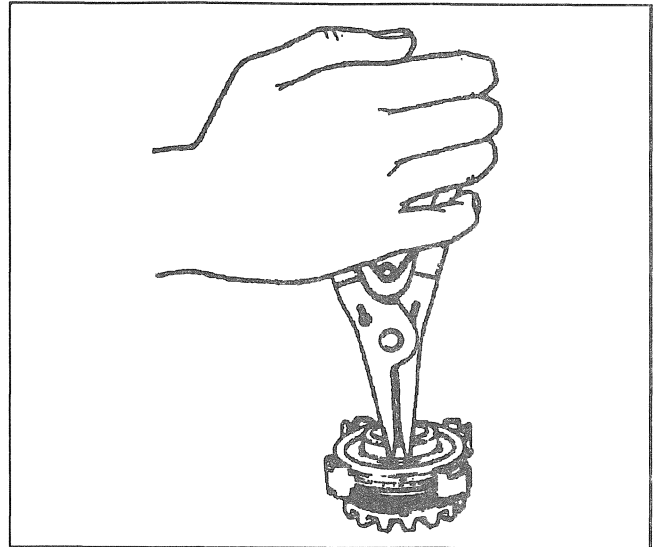

Figure 3—Removing the Retaining Ring
1. Retaining ring (22) (Figure 3).
2. Clutch plates (12).
3. Guide clips (20).
4. Retaining ring (22) (Figure 3).
5. Guide clips (20) to the clutch plates (12).